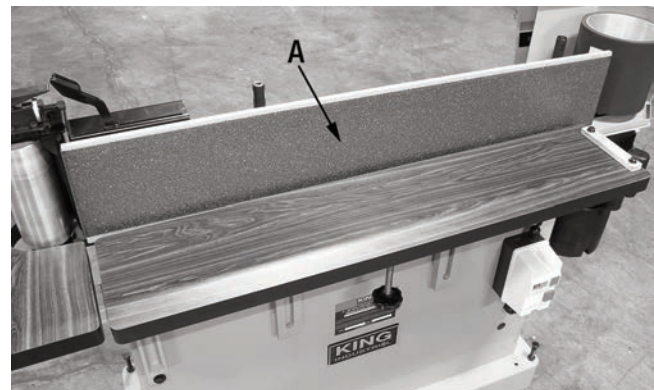

FIGURE 13
The graphite pad (A) Fig.13 will wear down and will eventually require replacement once visible signs of wear are apparent. To change graphite pad:
- 2) Pull the old graphite pad (A) Fig.13 off the steel platen. A strong solvent may be required to unglue the graphite pad from the steel platen.